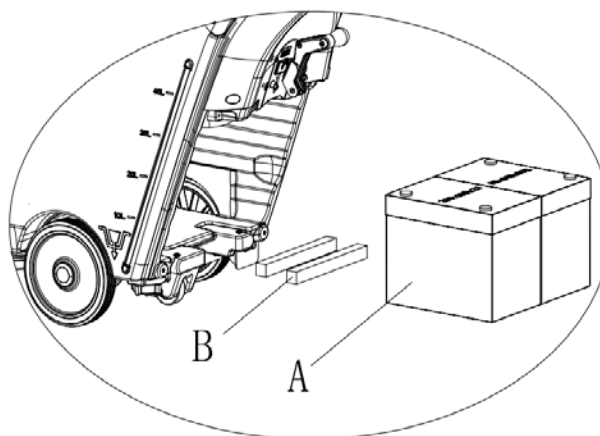

Figure 6
6. Disconnect the battery connector (9).
7. Open the recovery tank lid (24) to check if the tank is empty, if not, empty it by the drain hose (15).
8. Unscrew the squeegee knob (16) and remove the connector of sewage suction hose (11) to take down the squeegee.
9. Unscrew the screws of battery box cover (10) to remove it.
10. Remove the connector that connect squeegee lifting (12) and squeegee bracket (19), place the squeegee lifting to suitable place for battery installation.
11. Place the sewage suction hose and drain hose to suitable place for not prevent battery installation. (A, Figure 6)
When battery size less than the specified, to prevent battery movement, choose suitable battery baffle block (B, Figure 6) to plug the battery.